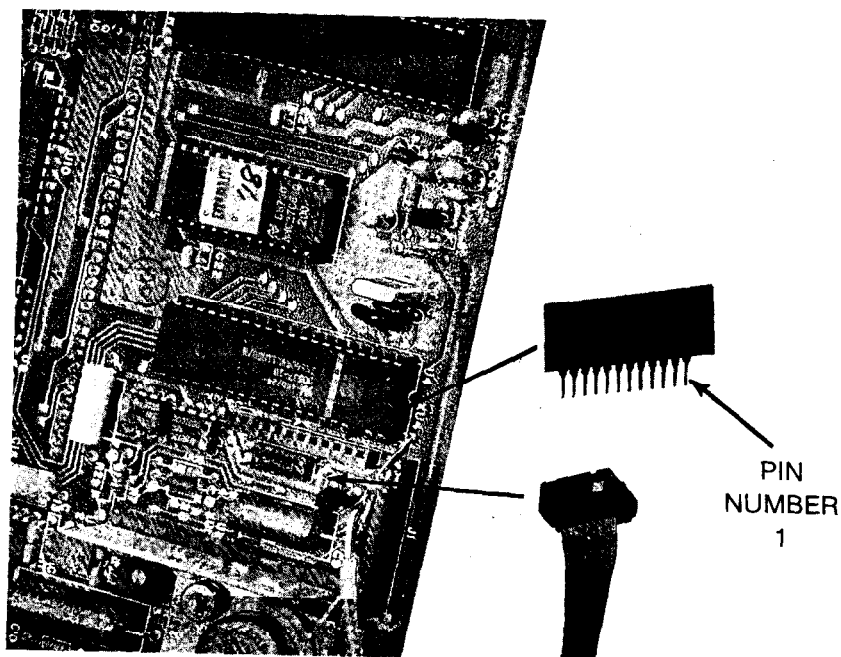

FIGURE 3
9. Note the polarity of the RECEPTACLE on the other end of the cable. Connect it to the plug (J2) on the P.C. BOARD. See Figure 3.
10. Note the marking that indicates PIN NUMBER 1 on the INTEGRATED CIRCUIT (Part number 90640-00). Install the INTEGRATED CIRCUIT in the RECEPTACLE (U-11) on the P.C. BOARD, making certain that PIN NUMBER 1 is toward J1 and the rear of the balance. See Figure 3.